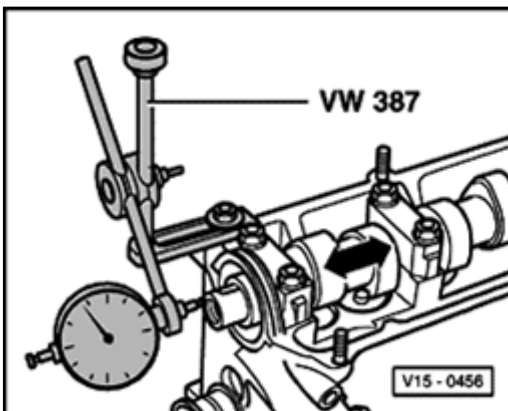

Fig. 126: Checking camshaft axial clearance
- Before installing check camshaft axial clearance. Refer to **Valve seats, reworking** and **Fig. 126**
- Reworking sealing surface. See **Fig. 126** .